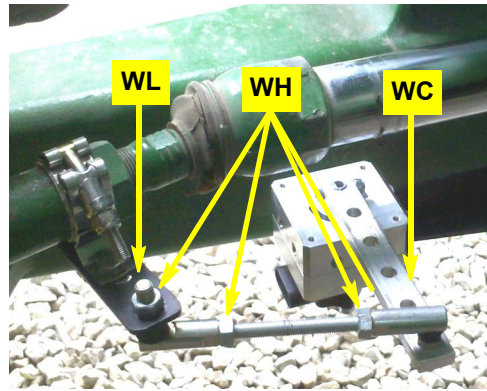

Figure 2d: WAS assembly mounting left or right mounting locations between
- d. Using remaining hardware **WH**, install the link rod assembly from step 1 between the last hole in connector arm **WC** and bracket **WL**. Set the swivel stud downward into **WC** and upward into **WL** (Figure 2d). Leave swivel nuts **WH** loose.
- f. When the linkage does move freely and without binding, tighten hardware **WH** on the rod and the swivels (Figure 2d).